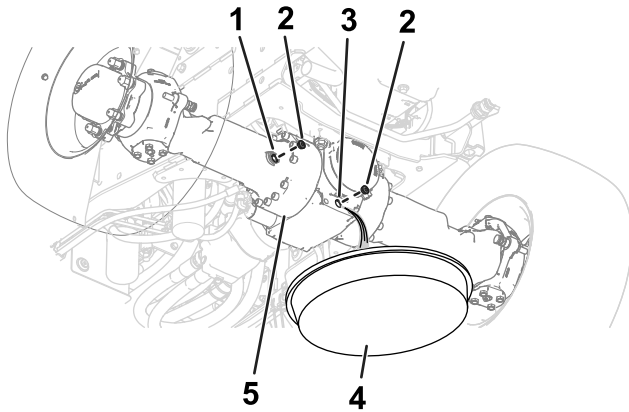
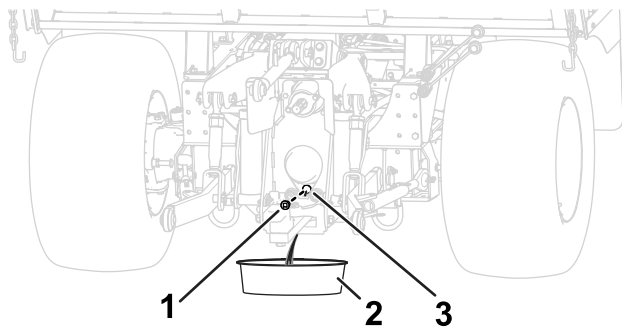

Figure 97
Figure 98
1. Place a drain pan under the differential housing of the axle (Figure 97 and Figure 98).
2. Remove the plugs from the sight port and the drain port of the differential housings for the axles (Figure 97 and Figure 98).